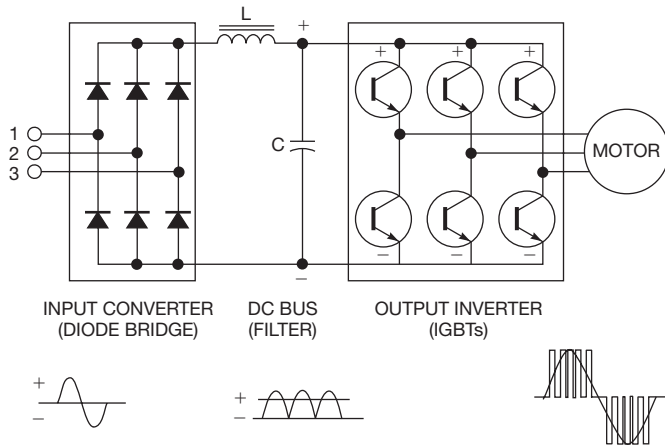
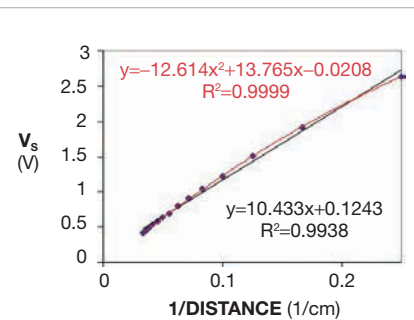

Figure 3 IGBT power transistors can convert the dc voltage back into ac using pulse-width modulation.
Figure 2 Plotting the voltage against the inverse of the distance improves the linearity.
The first step is to convert the ac-supply voltage into dc using a rectifier circuit. The dc power contains voltage ripples, which filter capacitors smooth (**Figure 2**). This dc voltage then converts back into ac, typically using pulse-width modulation (**Figure 3**). The output voltage turns on and off at a high frequency, with the duration of on-time, or pulse width, controlled to approximate a sinusoidal waveform.
**Figure 2** The dc link, or dc-bus filter, comprises a series inductor and two filter capacitors in parallel with associated MKP-type capacitors, which are in series with the mains.
To improve linearity, the manufacturer suggests using the relationship between the output voltage and the inverse value of the distance (Figure 2). You can use the curve-fitting utility of Excel software to calculate two or three